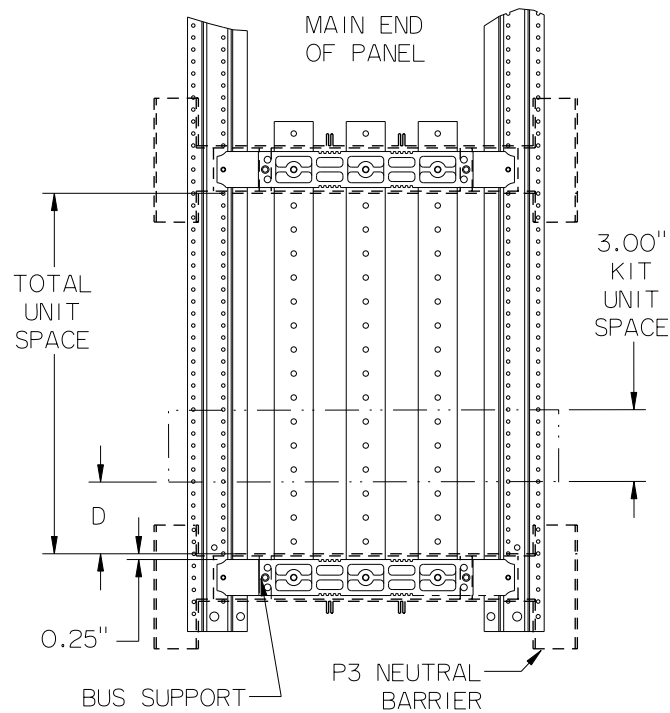

Figure 1
3. Refer to fig.1 - For taking unit space measurements in P2 panels, use the bus support located farthest from the main lug or device end of the panel. For P3 panels, use the neutral barriers if present, or the bus supports in panels without neutrals. Note that unit space starts at the inner surface of a P3 neutral barrier and 0.25" from the inner surface of a P2 or P3 bus support.
4. This kit requires 3" of unit space. Determine the location where the kit is to be installed. The kit positioning dimension D in fig. 1, must be a multiple of 3" (0", 3", 6", 9", etc.). These measurements can be taken directly from a P3 neutral barrier. For measurements taken from a P2 or P3 bus support, add 0.25" to D (0.25", 3.25", 6.25", 9.25", etc.)